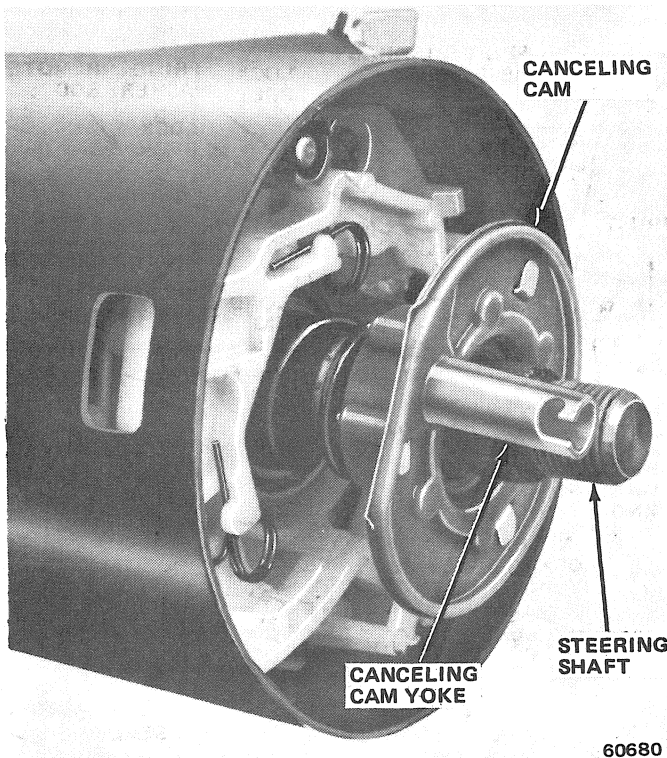

Fig. 2J-24 Positioning Canceling Cam
(23) Place turn signal switch in neutral position and install hazard warning switch knob.
(24) Position lock plate on steering shaft.
(25) Install replacement steering shaft snap ring on sleeve of Compressor Tool J-23653 and install tool on steering shaft (fig. 2J-25).
CAUTION: Identify the steering shaft nut thread type before using the compressor tool. If the shaft has American threads, use the compressor tool as is. However, if the shaft has metric threads (fig. 2J-2), replace the compressor tool forcing screw with Metric Forcing Screw J-23653-4 before using the tool.
(26) Compress lock plate and install snap ring in steering shaft groove (fig. 2J-25).
(27) Remove compressor tool. Be sure snap ring is fully seated before removing tool.
(28) Install lock plate cover.
(29) Remove Support Fixture Tool J-23074 if installed.
(30) Install column mounting bracket. Tighten bracket attaching bolts to 20 foot-pounds (27 N•m) torque.